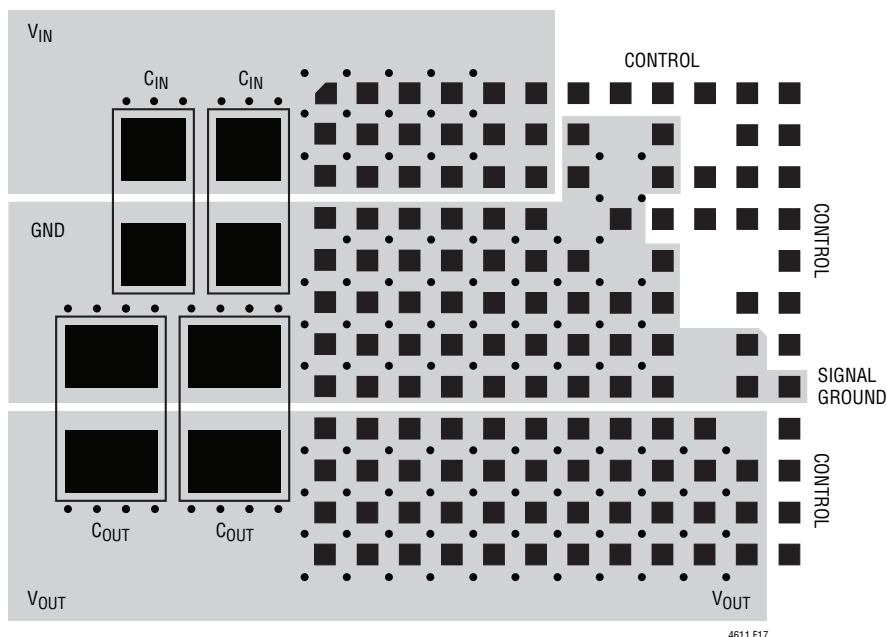
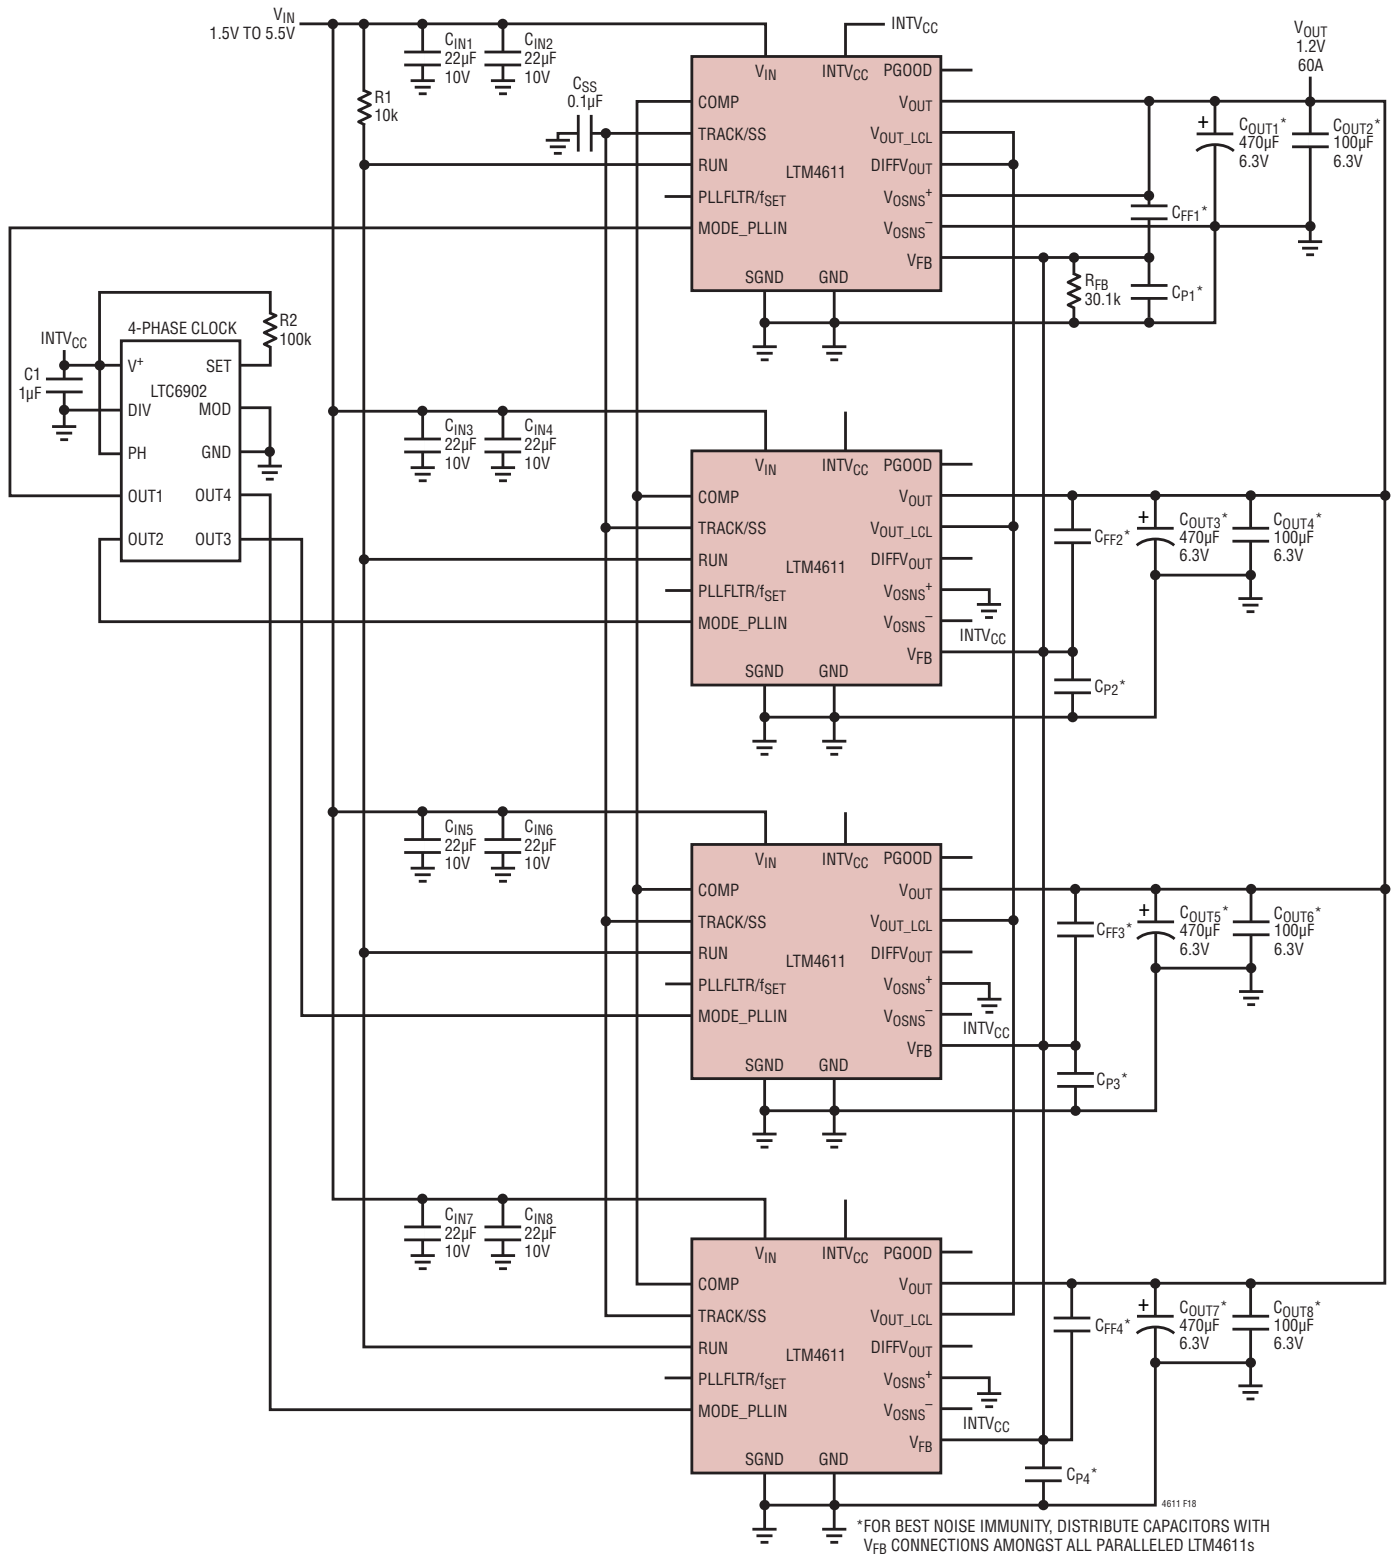

Figure 17. Recommended PCB Layouts
Figure 18. 1.2V, 60A, Current Sharing with 4-Phase Operation
- For parallel modules, tie the respective COMP, V_{FB} , V_{OUT_LCL} , TRACK/SS and RUN pins together. Use an internal layer to closely connect these pins together. Figure 17 gives a good example of the recommended layout. Figures 18 and 19 show schematics of the LTM4611 devices operating in parallel.